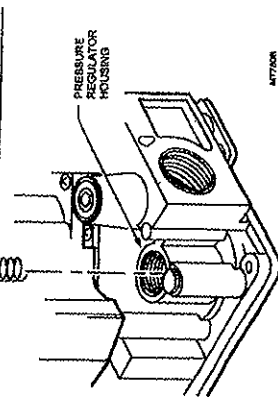

Fig. 2. Conversion kit installation in regulator.
- Insert the replacement spring. Refer to Fig. 2.